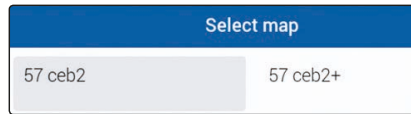

Fig. 248
- Select a map from the list (Fig. 248).